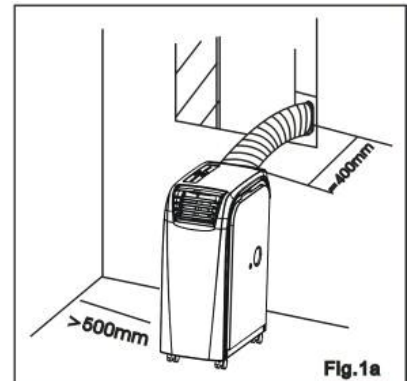

Fig.1a
- ◆ Install the Exhaust Hose and the Adjustable Window Slider Kit as depicted in Fig.1 & Fig.1a.